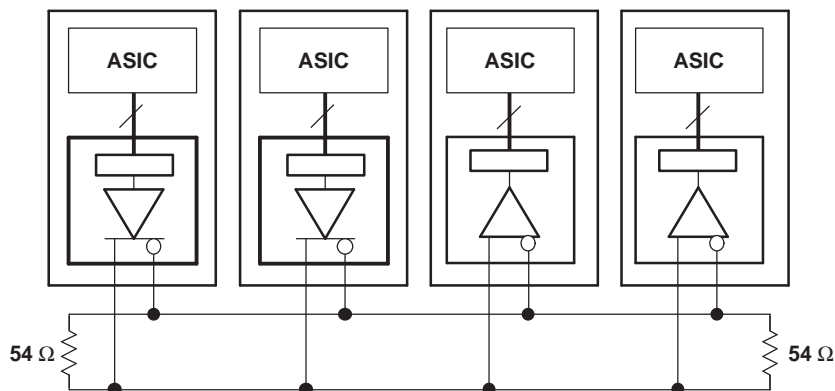

Figure 24. Multiple Serializers and Deserializers on the Same Differential Bus
**Figure 24** shows an example of multiple serializers and deserializers on the same differential bus, such as in a backplane. This is a multipoint configuration. In this situation, the characteristic impedance of the bus can be significantly less due to loading. Termination resistors that match the loaded characteristic impedance are required at each end of the bus. The total load seen by the serializer in this example is 27 Ω.